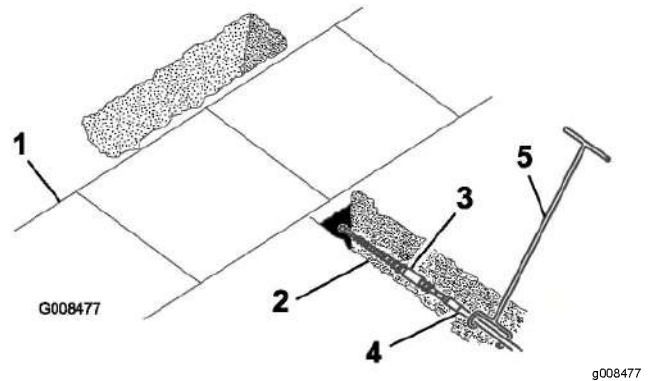

Figure 5
4. Connect the rod guide tool to the rod just behind the boring bit (Figure 5).
5. With the person guiding the boring bit positioned to the right of the trench (Figure 5), start the engine, move the pump selector valve to the SLOW position (200 and 300 Series traction units only), move the throttle to midway between the SLOW and FAST positions, and pull the auxiliary hydraulics lever rearward to start the forward rotation of the boring bit.
6. Slowly move the traction unit forward, while the person with the rod-guide tool guides the boring bit into the soil (Figure 5).